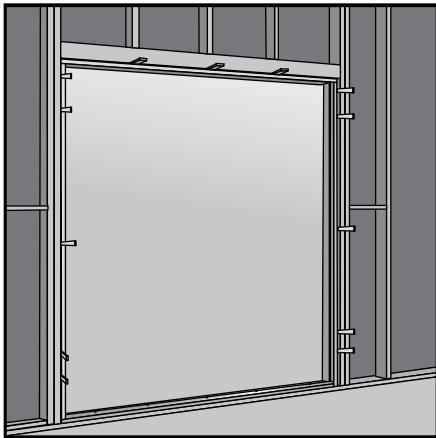

Fig. 21
A. SYSTEMS 1 & 2 (**Fig. 21**); shim as follows: